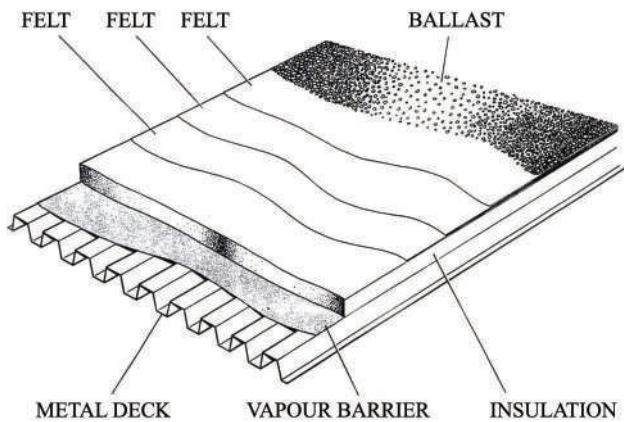

Figure 6. Typical Built-Up Roof on metal deck.
1. Built-up-Roofing Systems (BURs): Comprising of 3 or 4 layers of roofing felt, with bitumen adhesive between each layer. (Fig.6). Problems include: